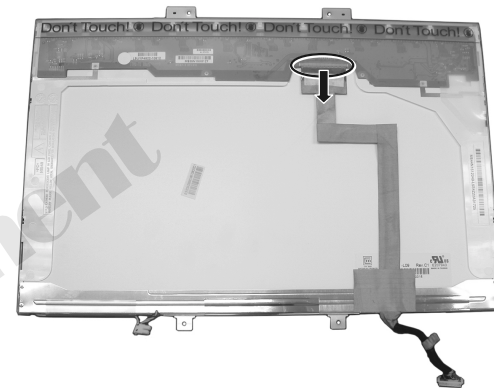

Figure 2-23 Free the LCD panel
6. Disconnect the cable to free the LCD panel. (Figure 2-23)